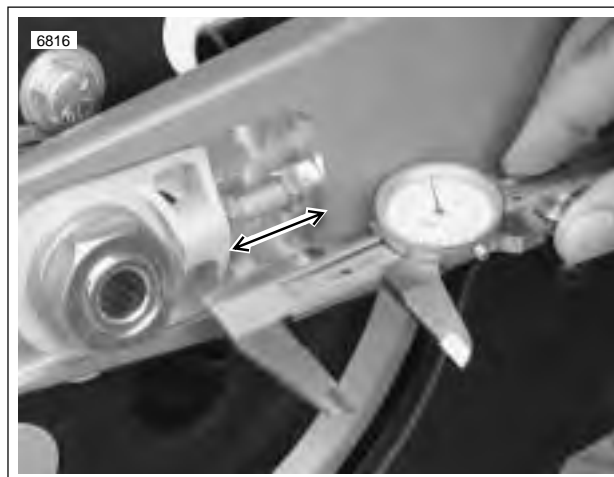

Figure 2-79. Checking Rear Wheel Alignment, Right Side Shown
21. See Figure 2-79. Working on the right side first, insert the REAR ISOLATOR REPLACEMENT TOOL (Part No. B-44623) between mount block and frame. NOTE: Ledge on tool should engage top of mount block.
- a. See Figure 2-79. Check rear axle alignment.